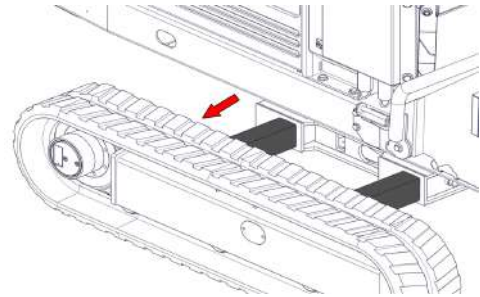

Figure 41 - Slider Bar Location
1. Extend the tracks fully (Figure 41).